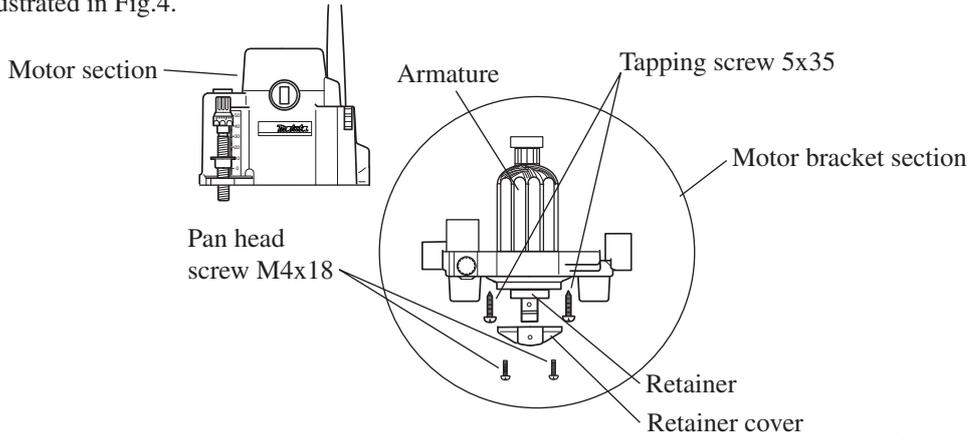

Fig.4
- (8) Remove retainer cover by taking off 2 pcs. of pan head screw M4x18 as illustrated in Fig.4.
- (9) Separate motor bracket section from motor section by taking off 4 pcs. of tapping screw 5x35 as illustrated in Fig.4.